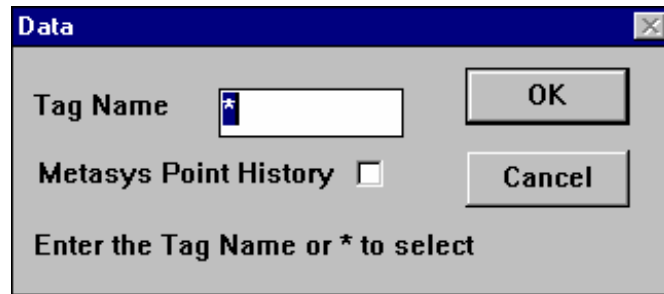

Figure 7-3: Data Dialog Box for Trend Log Channel
2. Right-click the channel to configure, and select Data from the pop-up menu that appears. The Data dialog box for the Trend Log channel appears (Figure 7-3).